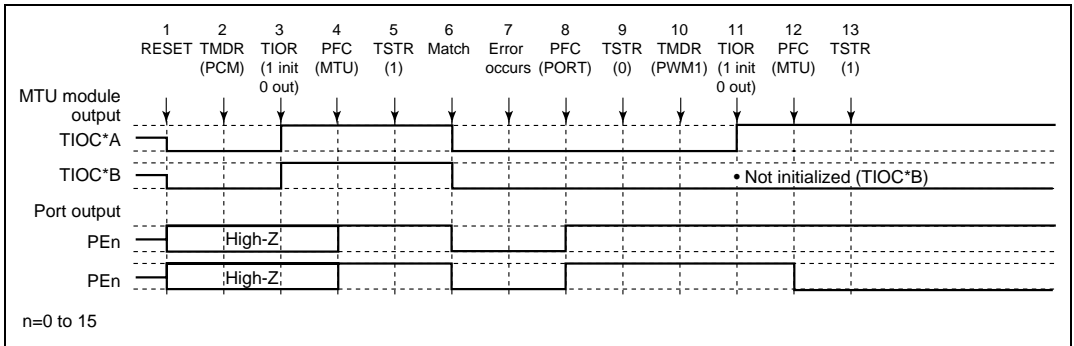

Figure 10.102 Error Occurrence in Phase Counting Mode, Recovery in PWM Mode 1
(18) Operation when Error Occurs during Phase Counting Mode Operation, and Operation is Restarted in PWM Mode 1: Figure 10.102 shows an explanatory diagram of the case where an error occurs in phase counting mode and operation is restarted in PWM mode 1 after re-setting.